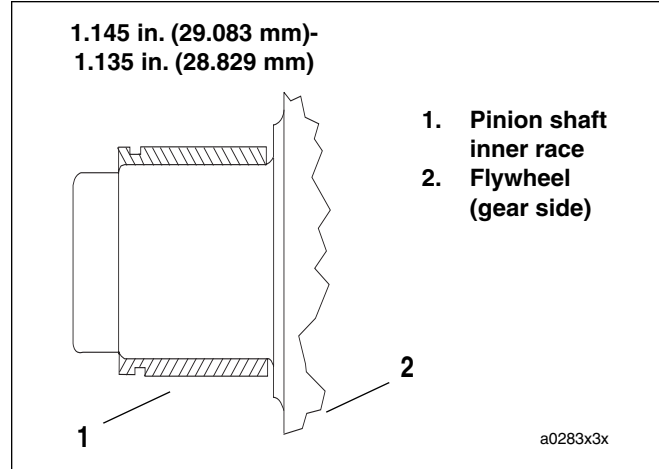

Figure 3-149. Inner Race Location
- See Figure 3-149. Press **new** inner race on pinion shaft as shown. When the tool bottoms against the flywheel, correct inner race location is automatically established. The finished inner race must meet the specifications in Table 3-34.